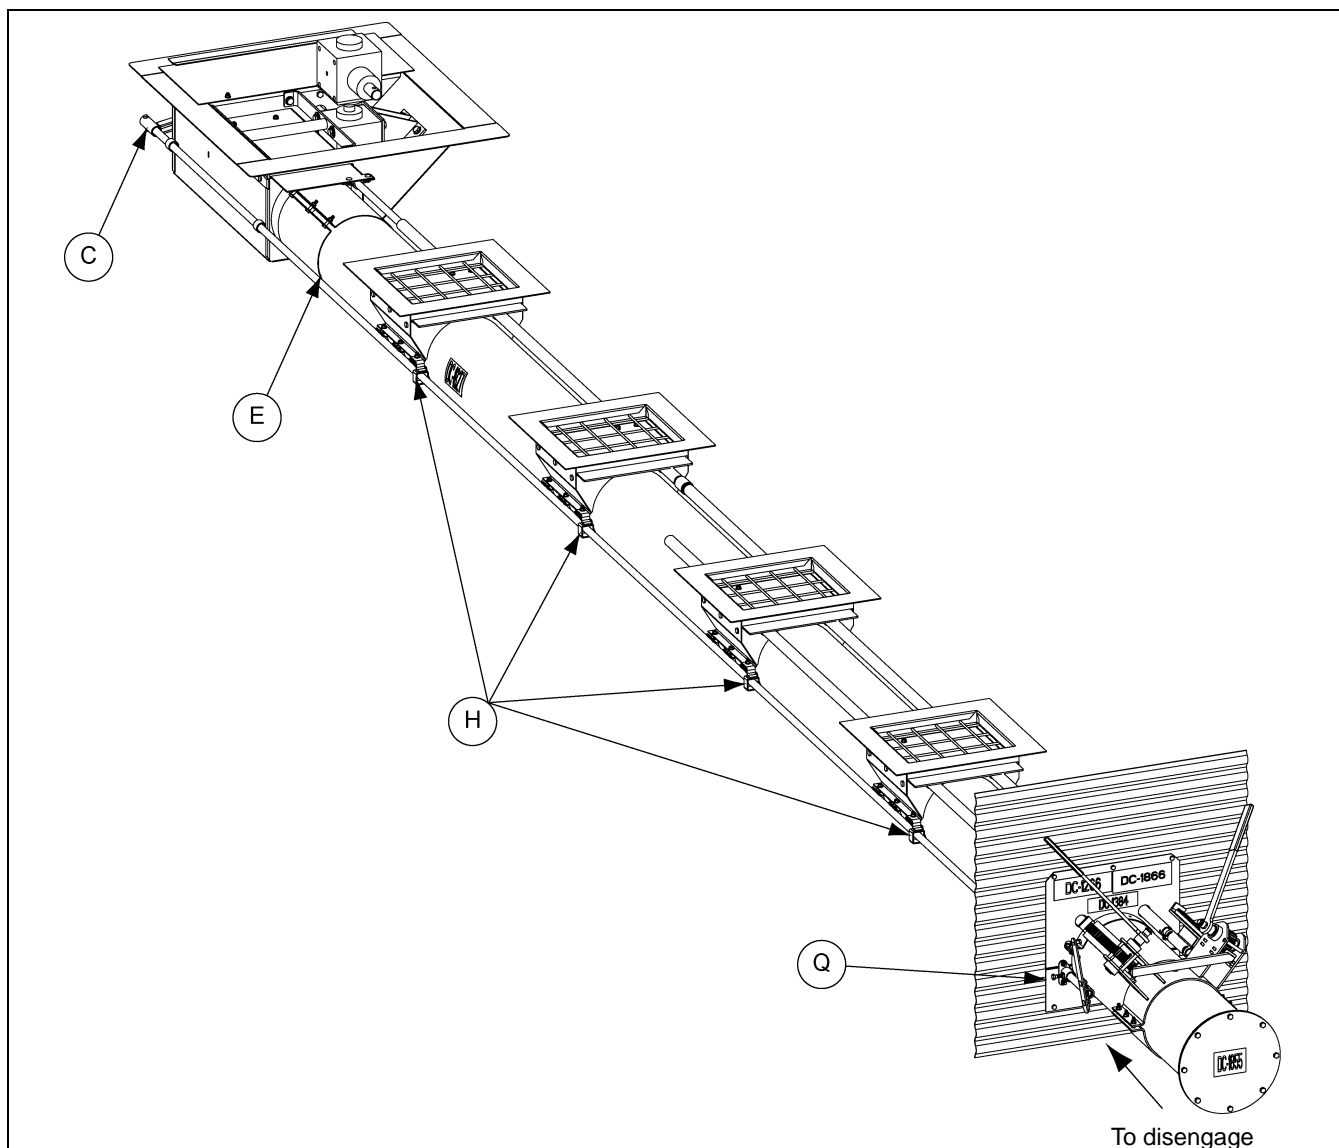

Figure 4AB
5. Check the operation of the clutch rod (E) by pulling the handle to engage the clutch and then pushing the handle to disengage it. The clutch control pipe (H) should slide freely. Lock the control pipe into the disengaged position by tightening the bolt on the clutch control pipe (H) position lock that is attached to the bin flange. (See Figure 4AB.)